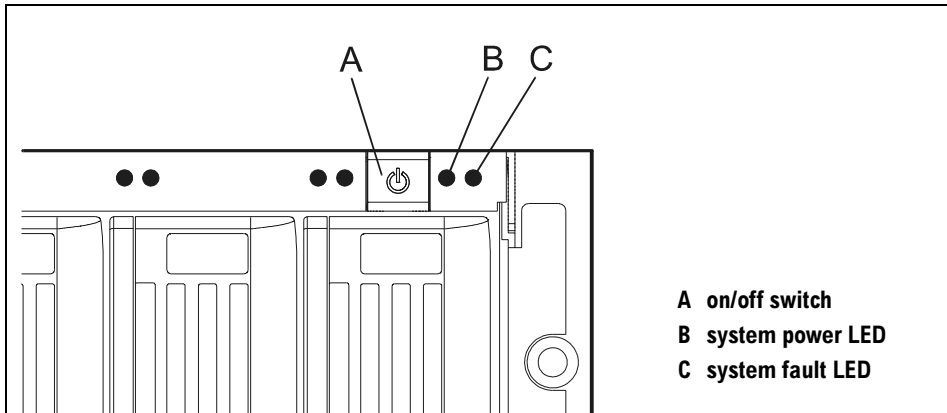

Figure 36 On/Off Switch and System LEDs
1. Press the power switch (A in Figure 36) to turn on the disk system.